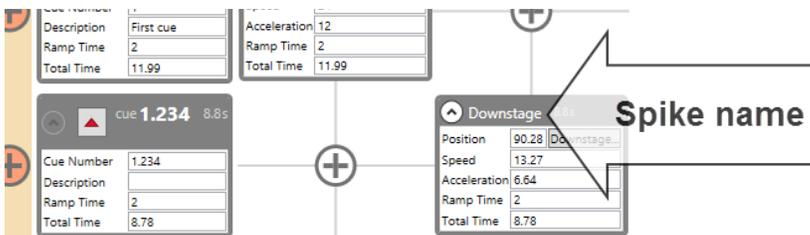

Figure 58
6. Notice that the *Turntable Movement* for *Cue 1.234* shows the *Downstage Spike* name for the target position (Figure 58).